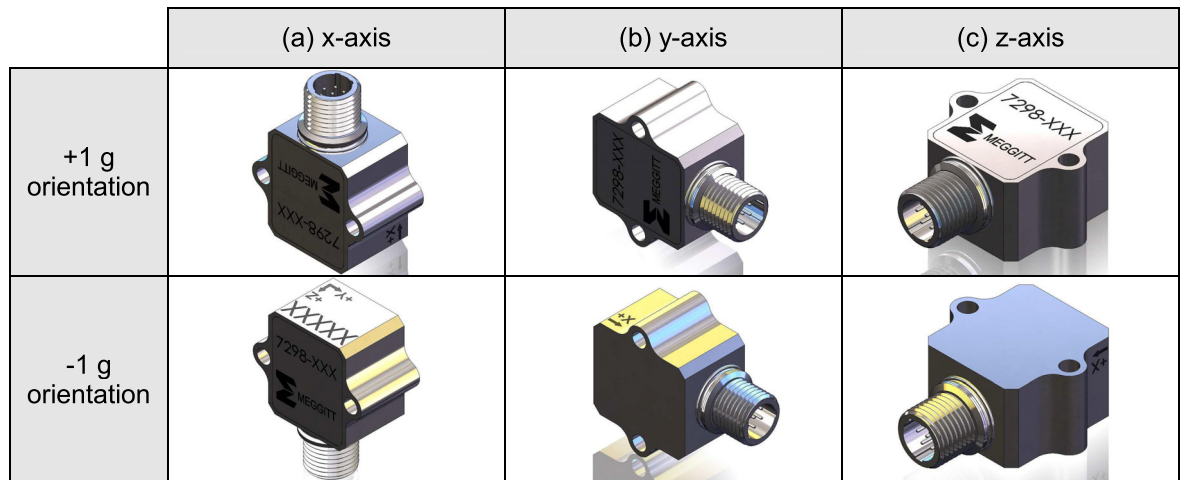

Figure 1. Orientations for 2g turnover testing of the (a) x-axis, (b) y-axis and (c) z-axis.
3. Familiarize yourself with the measurement coordinate system of the 7298 triaxial accelerometer. The axes orientation is marked on the body of the accelerometer, where the arrows indicate the positive direction for each axis. Refer to Figure 1 for an illustration of the various orientations needed during the three 2g turnover tests to be performed.
- a. Orient the unit in the x-axis positive 1g position (per Fig. 1) and record the output voltage on the x-axis output lead (green) with reference to the 2.5V reference lead (white/green).
- b. Orient the unit in the x-axis negative 1g position (per Fig. 1) and record the output voltage on the x-axis output lead (green) with reference to the 2.5V reference lead (white/green).